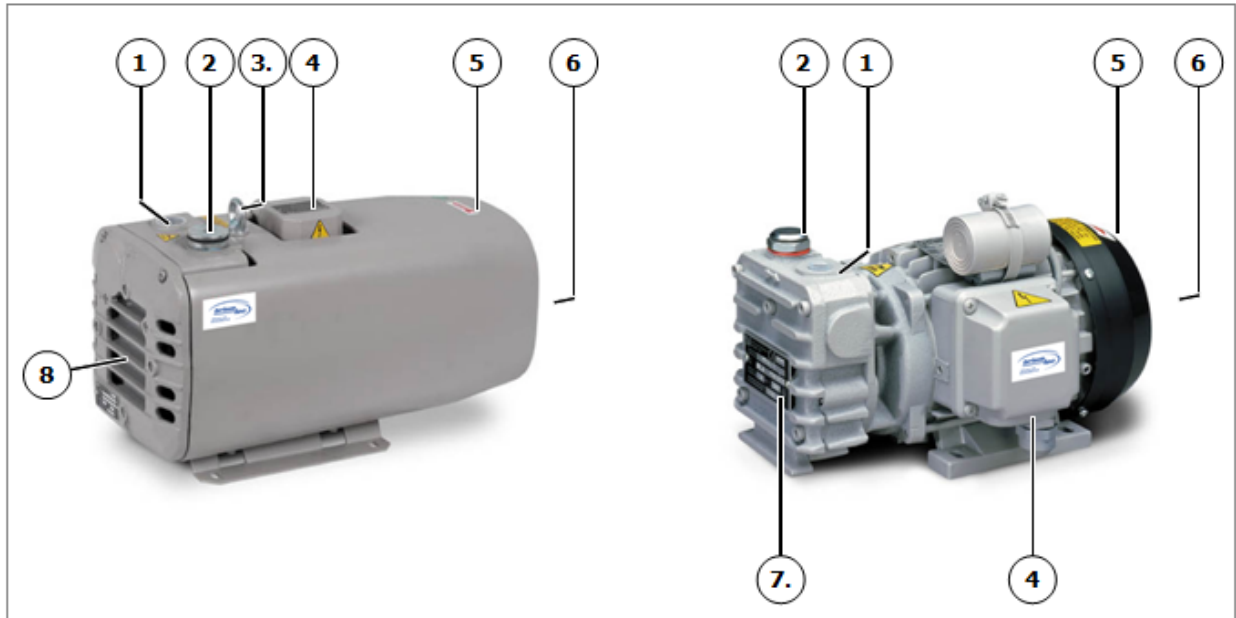

Fig. 4 Principle components of the ZIRKON V
The machines of the ZIRKON series have suction and exhaust sides, each with a connecting thread (item 1 and 2, Fig. 4).
The D040 series machines ZIRKON V may only be suspended by the designated eyebolt (item 3, Fig. 4).
All parts listed with the item number refer to the illustration, fig. 4 on page 12.
1. Vacuum line connection, item 1, Fig. 4.